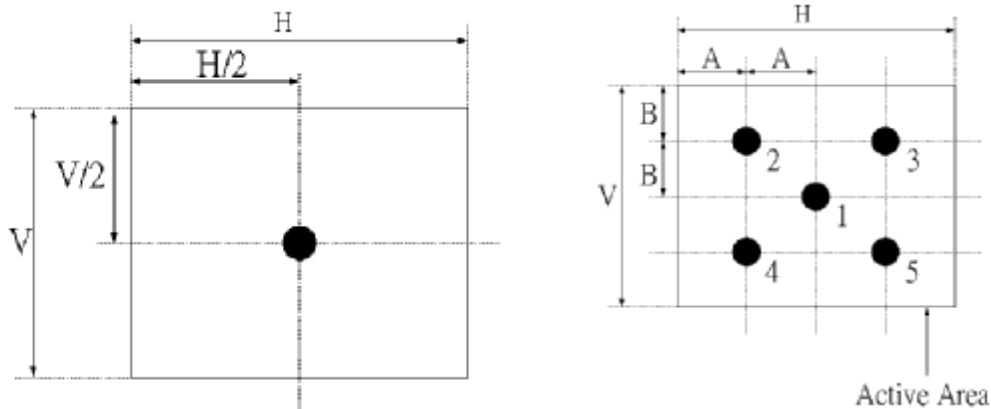

Fig.4-2 Optical measurement point
2. Surface luminance is luminance value at point 1 across the LCD surface 50cm from the surface with all pixels displaying white. From more information see FIG 4-2. When $I_{BL} = 5.5\text{mA}$, $L_{WH} = 450\text{cd/m}^2(\text{typ.})$ $L_{WH} = L_{on1}$ (Where L_{on1} is the luminance with all pixels displaying white at center 1 location.)